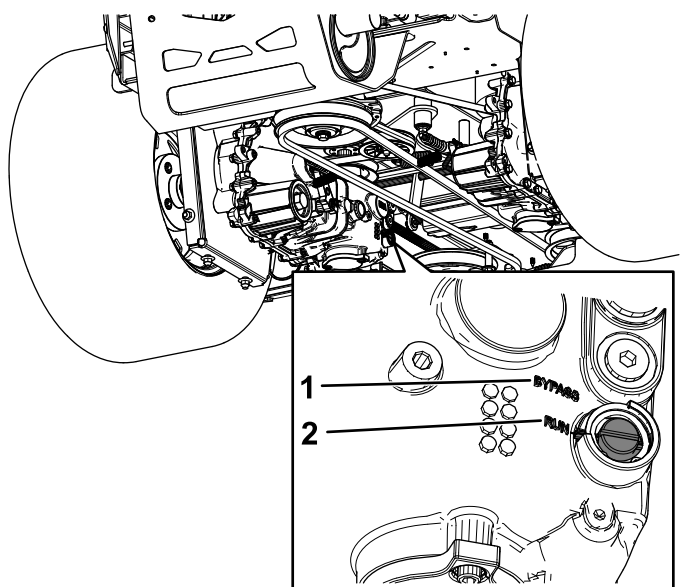

Figure 38
3. Using a flat-head screwdriver, rotate both cams to the BYPASS position (Figure 38).
5. To run the machine, rotate both cams to the RUN position (Figure 38).